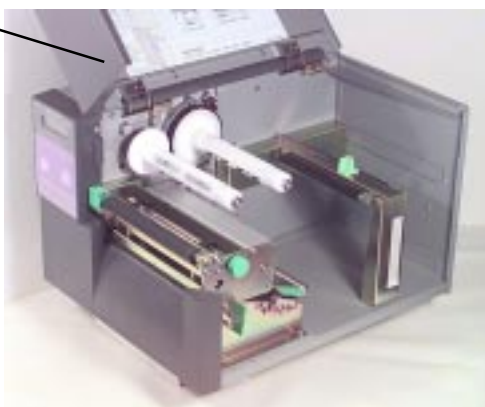

Fig. 1
2.	Raise the access door and remove the ribbon and label stock if installed. Fig. 1
2.	Raise the access door and load the ribbon and label stock. Fig. 1